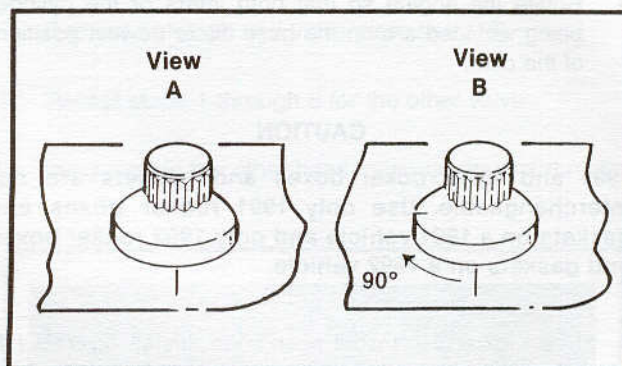

Figure 3-14. Tighten Head Bolts
- See Figure 3-14. Mark a line on the cylinder head and a corresponding line on the head of the cylinder head bolt as shown in View A. Following the same sequence 1, 2, 3, then 4, turn each bolt, one at a time one quarter turn (90°) using the marks as a guide. When marks are all positioned, as in View B, the procedure is completed.